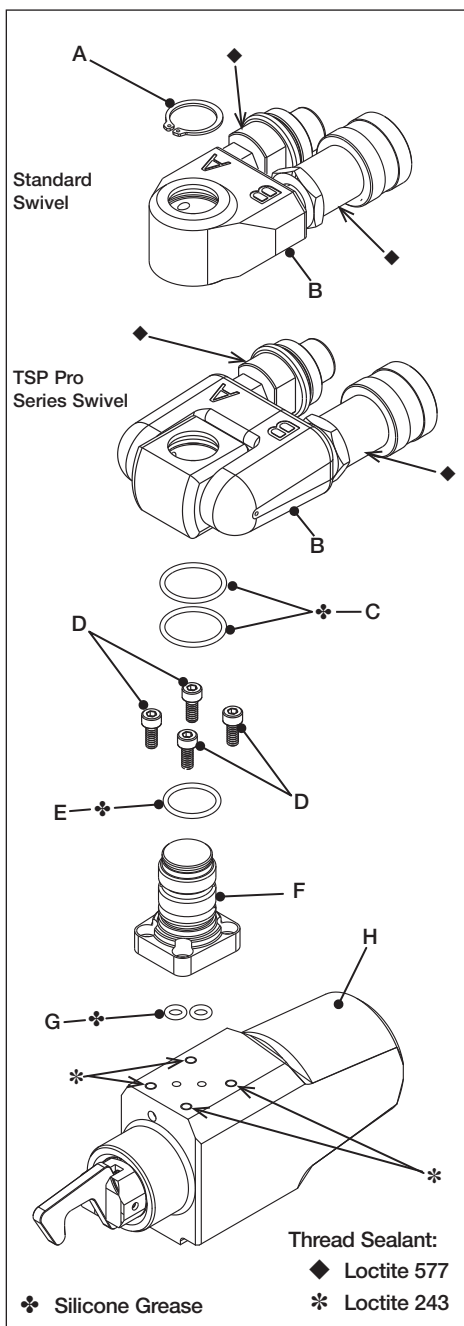

Fig. 14
5.3 Full Maintenance - Hydraulic Swivel and Drive Unit (Fig. 14, 15 and 17)
Refer to Figs. 14 and 17 for swivel components.
- Apply a small amount of Loctite 243 thread sealant to the threaded holes in the drive unit. See (*) in Figure 14 for locations.
- Install two O-rings (G) into the ports on the base of the swivel post (F).
- Place the swivel post (F) on the drive unit (H), making sure that hydraulic ports are aligned. Be careful that O-rings (G) do not drop out or become pinched or cut.
- Install the degreased M4 socket head capscrews (D) and tighten them to 3.7 Ft.lbs [5.1 Nm].